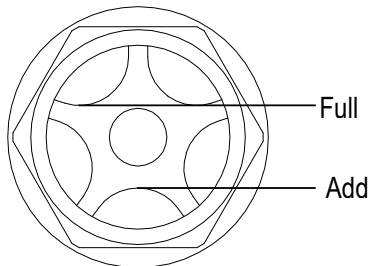

Figure 7
4. Start the unit and run for several minutes. Shut down the air compressor and recheck the oil level. If necessary, add more oil. (Figure 7)